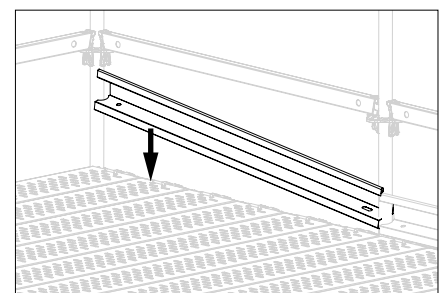

Fig. A5.02b
5. Lower the toe board onto the deck. (Fig. A5.02b)